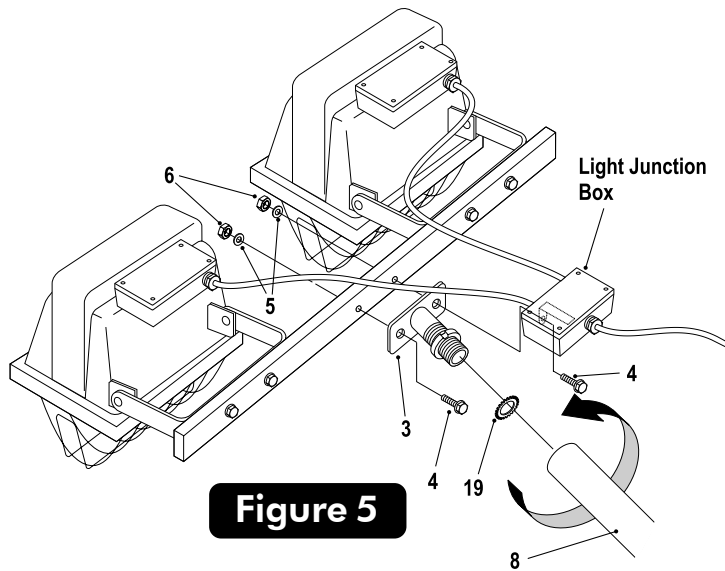

Figure 5
- Install a Serreated Washer (#19) onto Lamp Base (#3) and screw the threaded portion of the Lamp Base (#3) into the threaded end of Pole Section "A" (#8). Secure Lamp Base by tightening jam nut on Lamp Base (#3) against end of Pole Section "A" (#8). See Figure 5.
- Attach Lamp Base (#3) and Light Junction Box to Lamp Mount Bar (#2) using two Washer Head Bolts (#4), two washers (#5) and two locknuts (#6). See Figure 5.